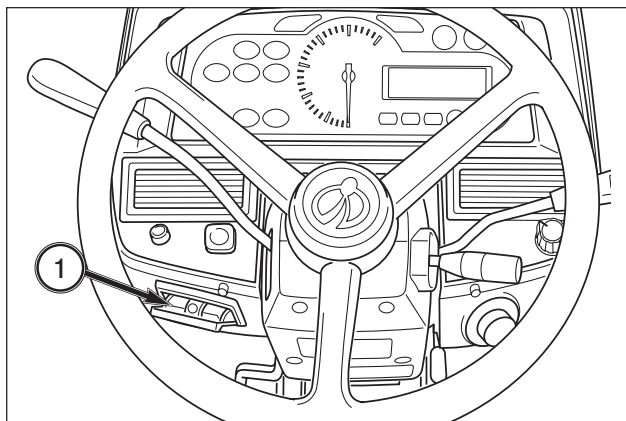

FIG. 5-66
FIG. 5-66: Ashtray(1) is located on the lower left of the steering wheel. Pull the upper part of ashtray(1) out when using. Take the ashtray(1) off after pushing down and pulling out when cleaning.